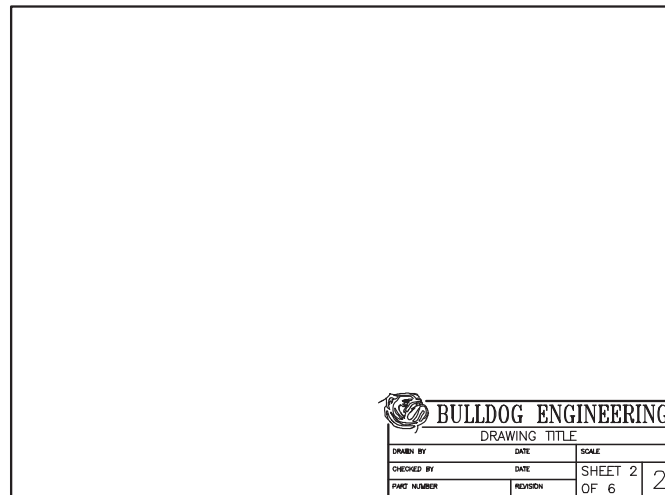
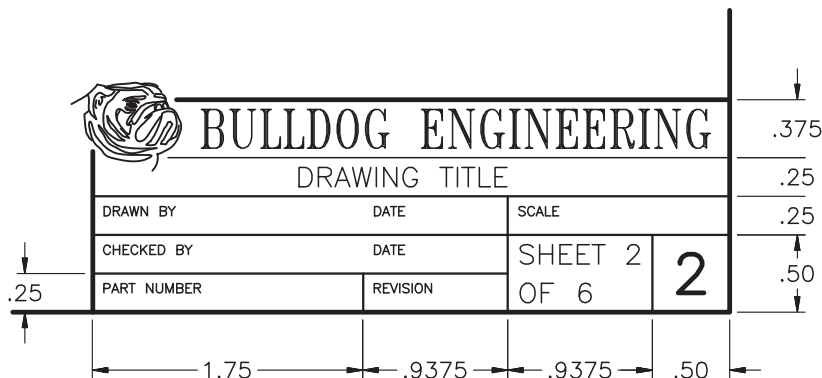

Fig. 21-3
Fig. 21-4
2. The border and title block shown in Fig. 21-3 are suitable for a paper size of  $8.5'' \times 11''$ . The border allows  $.75''$  white space on all four sides. Draw the border and title block using the dimensions in the detail drawing shown in Fig. 21-4. The three sizes of lettering in the title block are  $.0625''$ ,  $.125''$ , and  $.25''$ . Use the `romans.shx` font. Replace “Bulldog Engineering” with your own name and logo. Position the text precisely and neatly. Use the snap and grid as necessary. Omit words, such as **BY** in **DRAWN BY**, and misspell a few words. Then, using AutoCAD’s editing and spell-checking capabilities, fix the text.